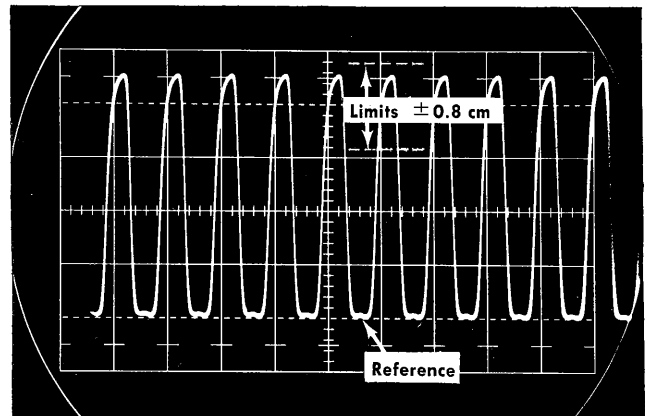

Fig. 6-15. Typical display of Trigger Output signal.
c. Check that the trigger signal amplitude is 200 mV \pm 40 mV (4 cm \pm 0.8 cm); see Fig. 6-15. Also check the trigger signal amplitude with the PERIOD switch at 1 μ s and 10 μ s.